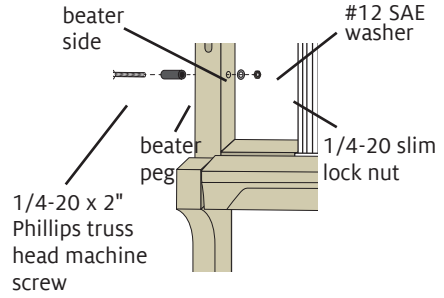

FIGURE 2: INSTALLING BEATER PEGS
- Insert a 1/4-20 x 2" Phillips truss head machine screw through a 1" plastic beater peg, then through the beater side from its outer side (Figure 2).